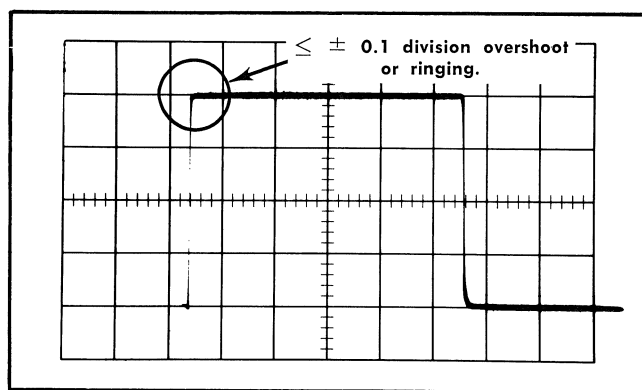

Fig. 5-5. Transient response waveform; 0.2 μ s/cm sweep rate.
c. Switch the indicator oscilloscope Time/Cm to .2 μ s and adjust the Horizontal Position controls as necessary to position the display as in Fig. 5-5.
d. Check overshoot and ringing. It should be less than or equal to ± 0.1 division. See Fig. 5-5.